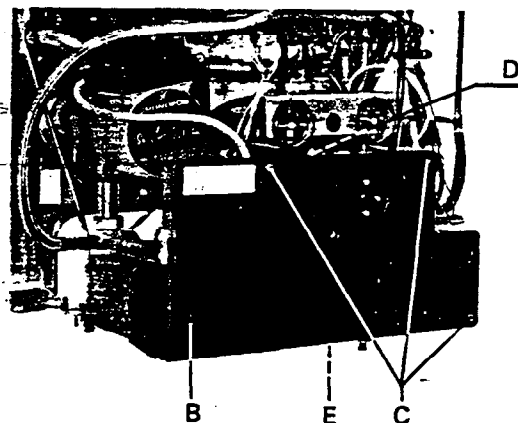

Fig. 56
- q) Continue moving electrical box until bottom support bracket can be positioned on hook at bottom of appliance (see fig. 56 a). To remove the electrical box completely, continue in the following manner.